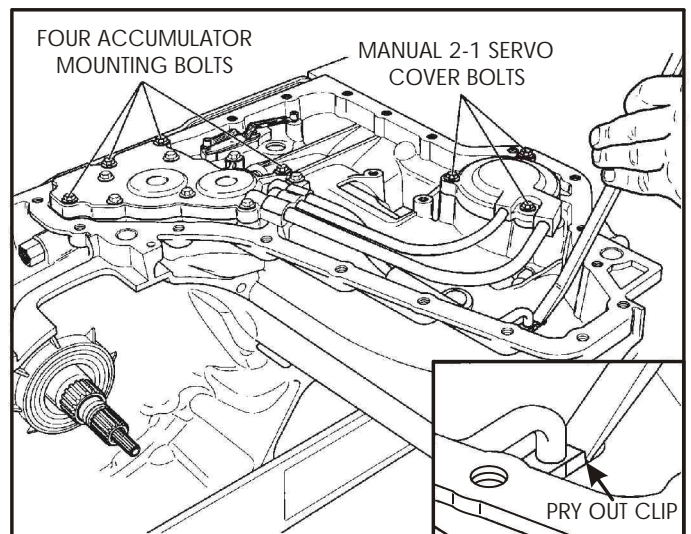

Figure 201
12. Install the four retaining bolts in accumulator housing, and three retaining bolts in 2-1 manual servo cover, as shown in Figure 201.
15. Install the final drive lube pipe clip in position in the transaxle case, using a large screwdriver, as shown in Figure 201.